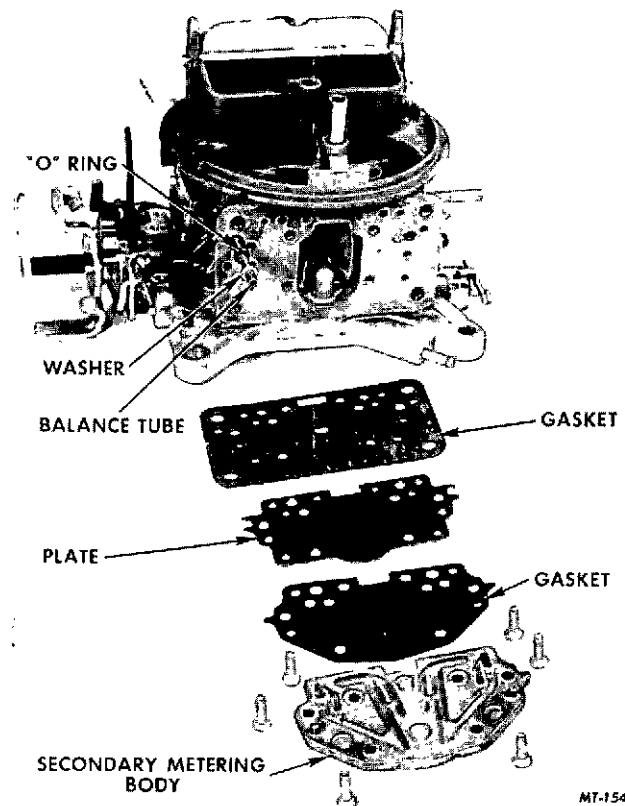

FIG. 37 Removal or Installation of Secondary Metering Body (Model 4160)
15. Remove secondary metering body plate and gaskets from main body (Figure 37). **NOTE:** A clutch head screwdriver must be used. Do not attempt to make one from a regular screwdriver. Remove balance tube washers and "O" ring.
- B. Install a new secondary metering body (plate) to main body gasket followed by the metering body (plate) (Figure 37). Install six clutch head screws. Tighten evenly and securely with a proper clutch head screwdriver.